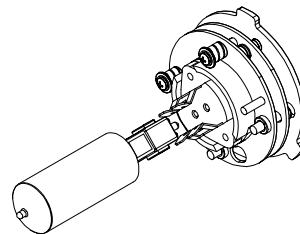

Figure 3-5c Remove lamp from socket
5. Holding the existing lamp by its ceramic base, carefully pull the lamp straight out of the lamp socket on the lamp assembly (see Figure 3-5c).